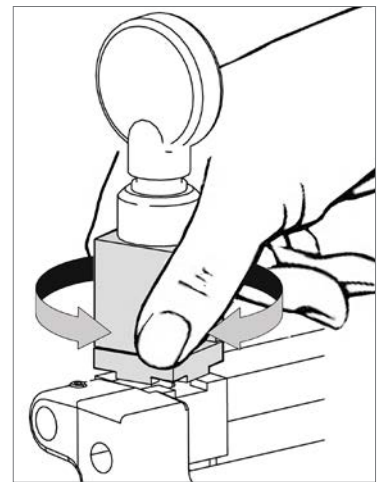

Fig. 20
Prepare the clamps with the required side facing the cutter and tracer point (Fig. 20).
- 1) Turn the clamps to find the appropriate side for securing the key (Fig. 20).